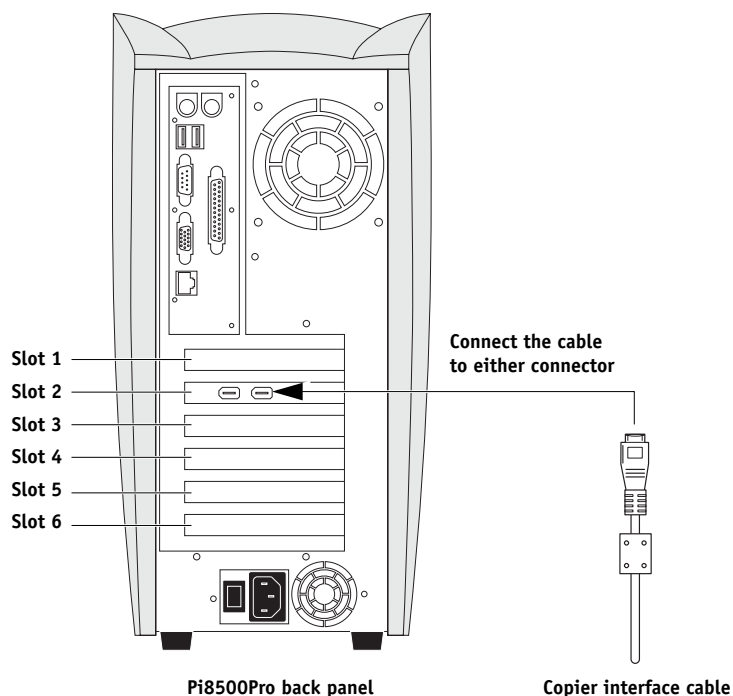

FIGURE 3-2 Copier interface connection
3. Connect one end of the copier interface cable to the interface connector on the copier and the other end of the cable to either one of the Pi8500Pro copier interface connectors (see Figure 3-2 below).